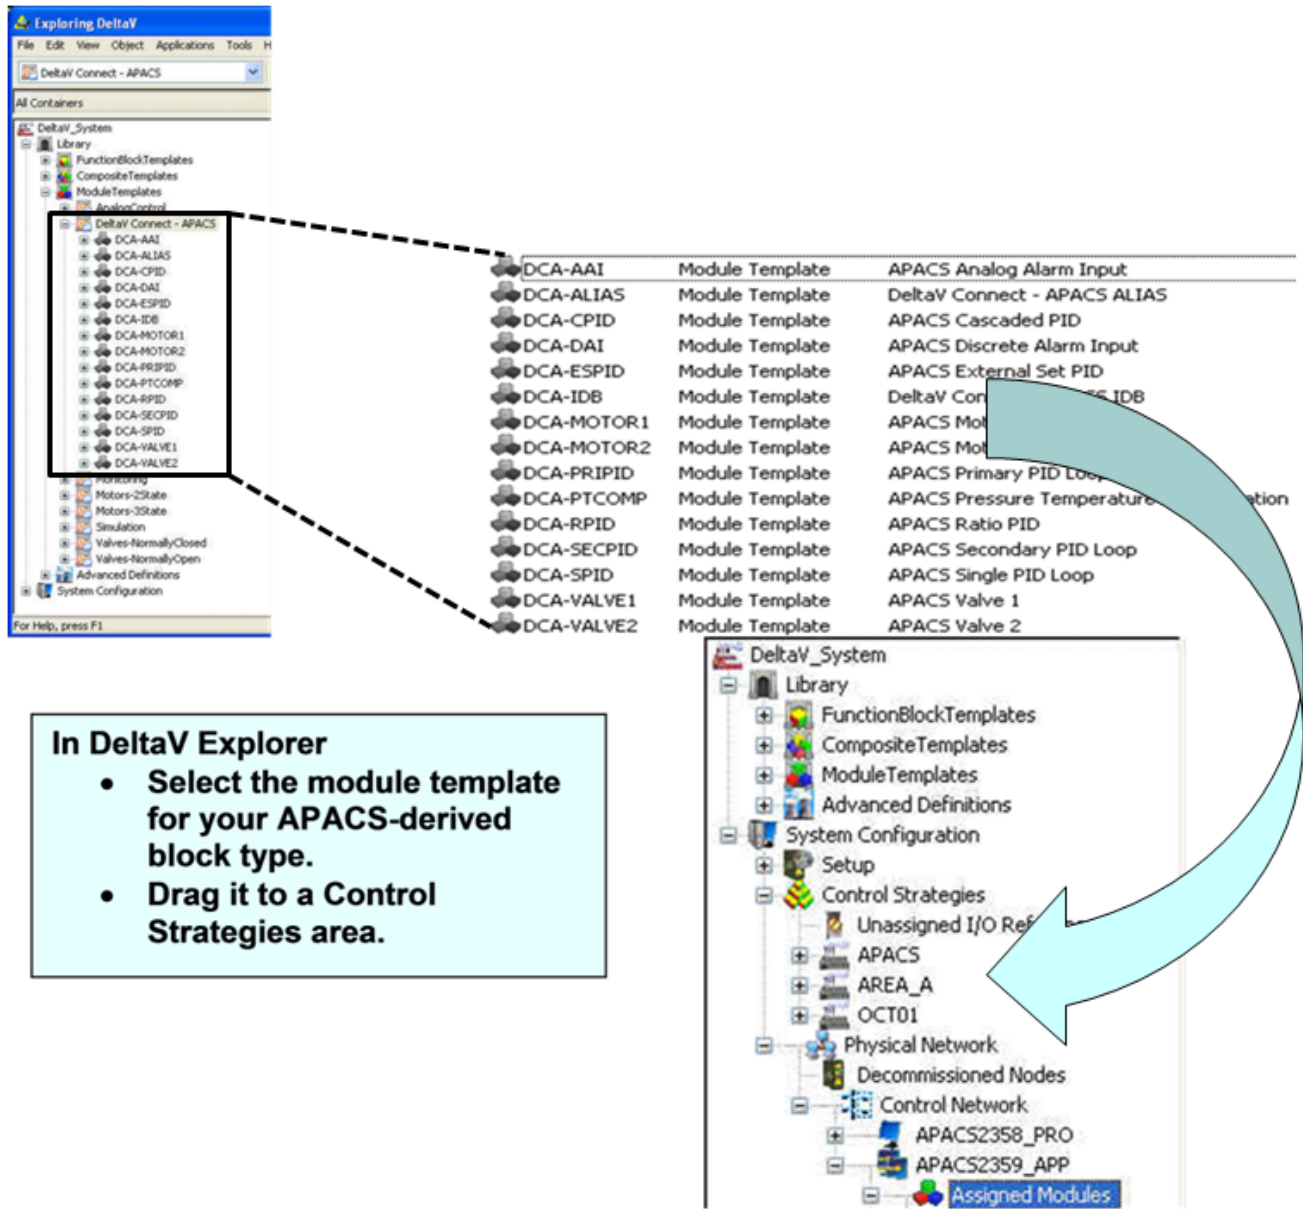

Figure 4. DeltaV Explorer view of interface module templates
2. Drag the module to a Control Strategies Area. (See Figure 4).